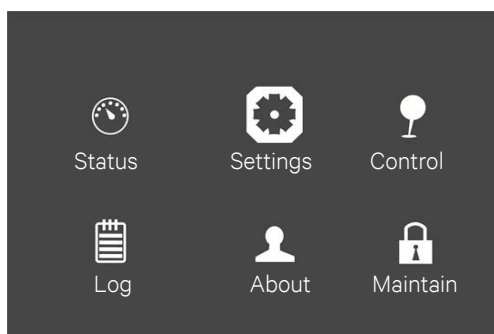

Figure 2-33 Main menu screen
a) At main menu screen, press the  or  key to select 'Settings', and press the  key to enter the interface shown in Figure 2-33